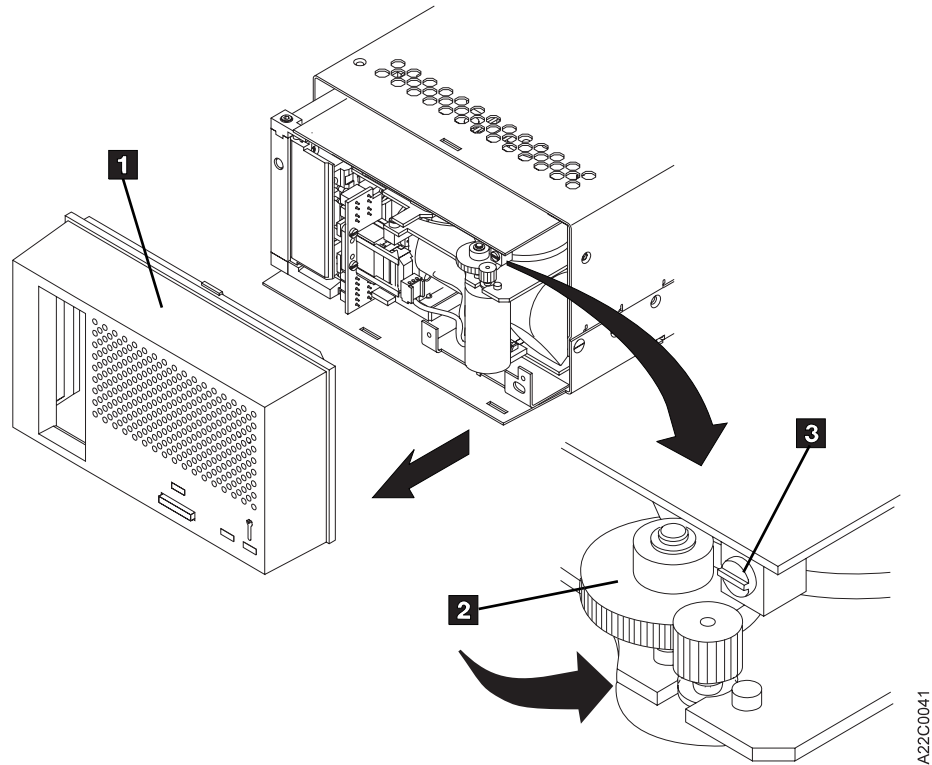

Figure 13. Positioning the Drive Loader for Shipping
- b. See Figure 13 on page 31. Remove the drive cover **1** from the drive by pressing the top center of the drive cover and pulling it free.